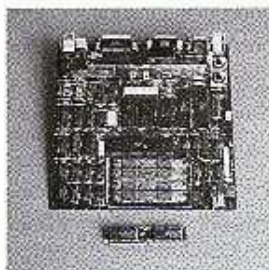

Figure 2-7
- e. Remove the Lo ROM chip (the chip on the right) from the main logic board and install it into the right connector on the SIMM card. See Figures 2-7. Make sure you install the ROM chip with its notch to the right (as indicated on the SIMM card).